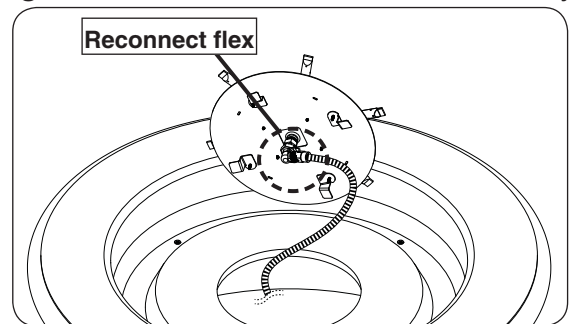

Fig. 25-4 Reconnect flex connector
1. Reconnect flex line coming from the valve to the burner assembly (see Fig. 25-4).